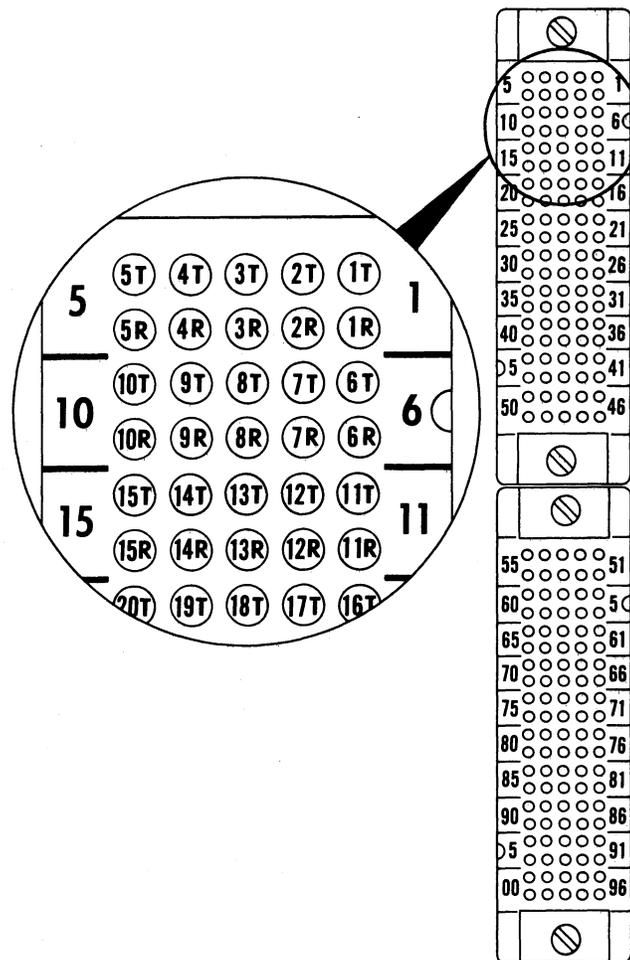

Figure 29. Test Field Terminal Details
12.01 The connector base has two 50 pair test fields available at the top and bottom of the connector. Test points are connected directly to the outside plant cable with a separate connection for the ring and tip of every pair. The test field is marked with numbers showing the beginning and end of each row of five terminals (see figure 29). Refer to Section 300 for accessories to aid in testing.